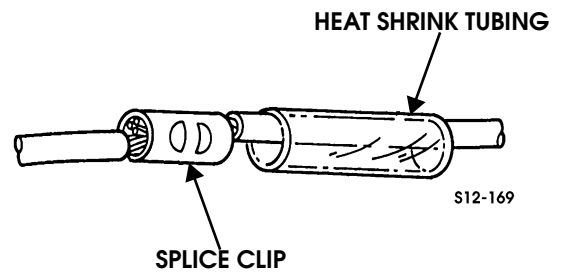

Figure 12-13: Splice Clip
7. Using a heat gun or equivalent heat source, apply heat to heat shrink tubing until tubing conforms to splice clip and wire insulation (Figure 12-13).